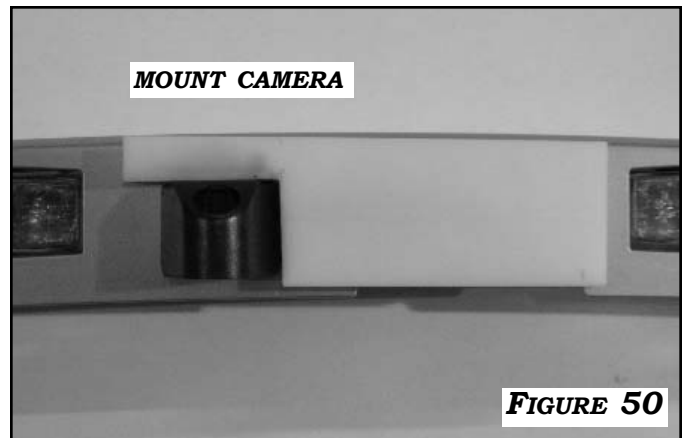

FIGURE 50
1. CLEAN THE LEFT SIDE OF THE BOTTOM OF THE LICENSE PLATE TRIM PIECE WITH ALCOHOL. ATTACH THE REARSIGHT HIGHLANDER REAR CAMERA MOUNTING TEMPLATE TO THE TRIM PIECE USING THE CENTER LICENSE PLATE LIGHT CAVITY AS A GUIDE AS SHOWN IN **FIGURE 50**. **NOTE: DIO CAMERA TEMPLATE IS ON PAGE 26**. PEEL THE CLEAR LINER OFF OF THE DOUBLE-SIDED TAPE ON THE CAMERA ASSEMBLY AND MOUNT THE ASSEMBLY TO THE TRIM PIECE USING THE TEMPLATE FOR ALIGNMENT. BE SURE TO PRESS DOWN CAMERA ASSEMBLY FIRMLY ON THE TRIM PIECE FOR FIVE SECONDS BEFORE RELEASING. REMOVE THE MOUNTING TEMPLATE FROM THE TRIM PIECE.